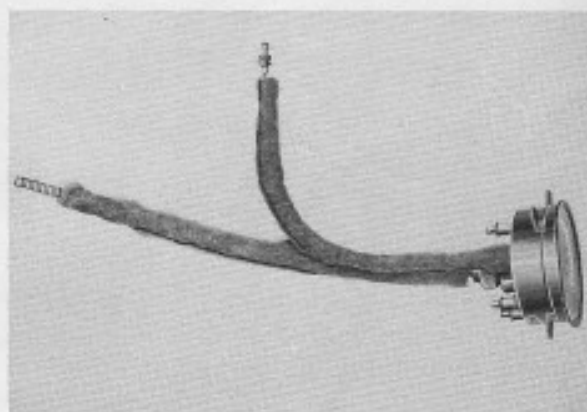

Fig. 9.
6. Speedo Cable & Trip Winders - It is practice on Production to fit sewn felt sleeves UW-1933 to the speedo cable and speedo trip, as shown in Fig. 9. In service it is intended to bind the speedo cable and trip with 1" strip felt. Fitting the felt necessitates removal of:- Instrument Facia, Speedometer, Clock and Speedo Trips. The Speedo Cable is disconnected at the drive end and the two retaining clips are slackened, enabling part of the cable to be drawn into the car interior. Bind the felt in a spiral fashion to cover 18" of the Speedo Cable and completely cover the clock and Speedo Trips.